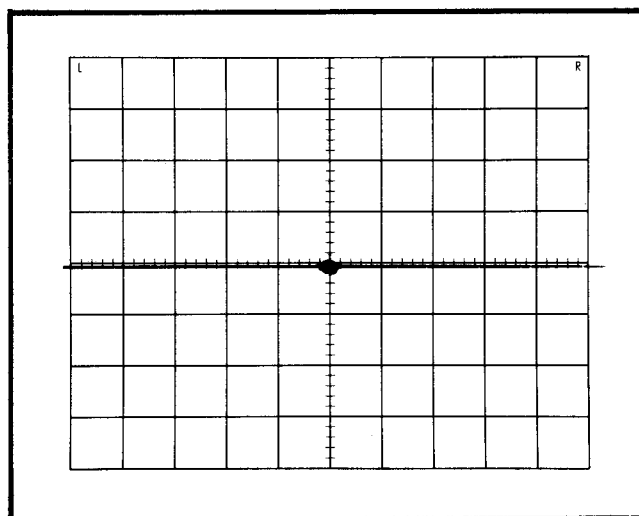

Fig. 6-2. Definition of vertical graticule lines.
- c. Position the start of the 0% zone at the 5th cm vertical graticule line with the 0% ZONE POSITION control. (Fig. 6-2).